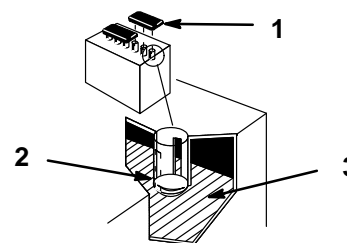

Figure 25
- Lift off the filler caps (Fig. 25).
- Check the electrolyte level. The electrolyte should be up to the lower part of the tube (Fig. 25). Do not allow the electrolyte to get below the top of the plates (Fig. 25).
- If the electrolyte is low, add distilled water to each cell until the level is up to the lower part of the tube (Fig. 25).